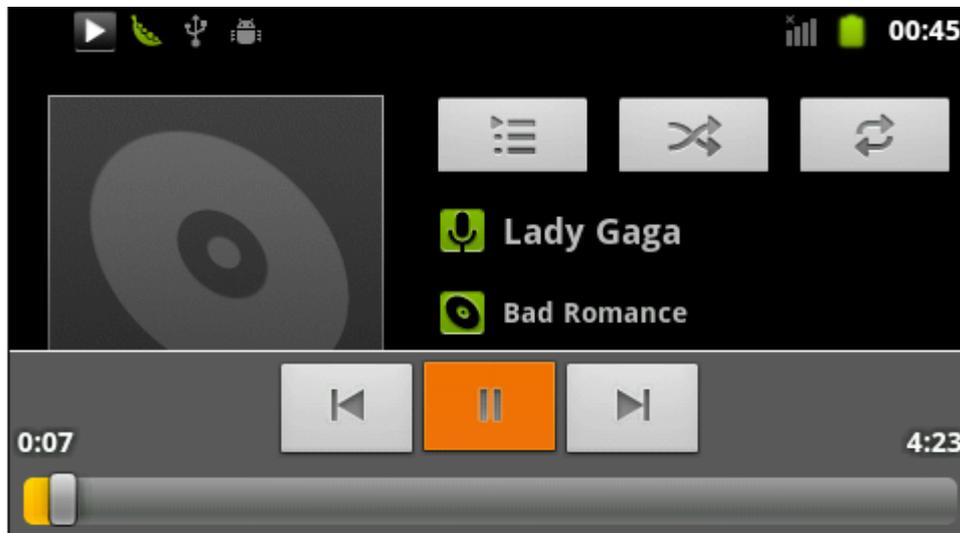

Figure 5-24
(3) Select a song to play. The effect is as shown in figure 5-24: